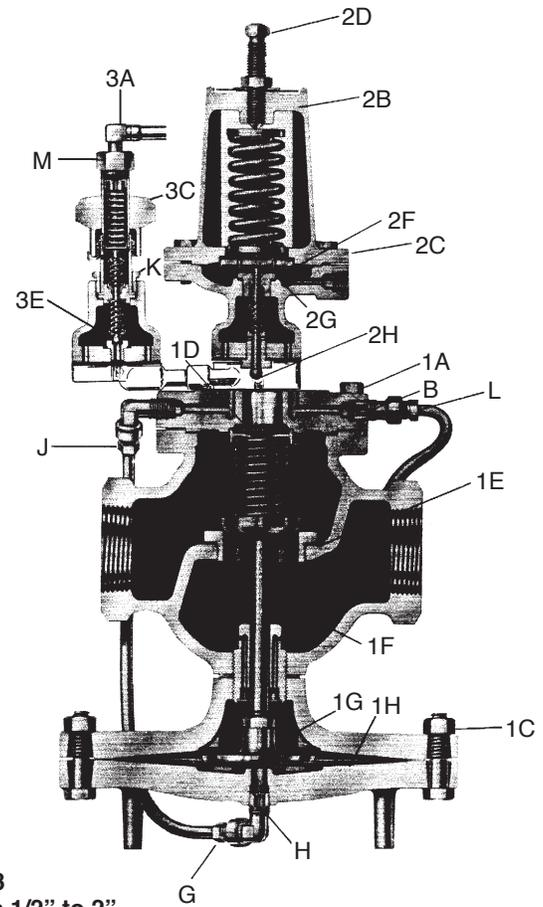

Fig. 3
2. Turn the pressure pilot adjustment 2D (Fig. 3) counter-clockwise until spring is slack.
Temperature Pilot, Inspecting and Replacing Valve Head and Seat (Refer to Fig. 3)
Pressure Pilot, Inspecting and Replacing Valve Head and Seat (Refer to Fig. 3)
2. Pilot valve head and seat are contained in one complete assembly. (See Fig. 3).
Inspecting and Replacing Pilot Head Stem Guide (Refer to Fig. 3)
Inspecting and Replacing Pressure Pilot Valve Diaphragms (Refer to Fig. 3)
Valve Sizes 1/2" thru 4" Inspecting and Replacing Main Valve Head and Seat (Refer to Figs. 3 and 5).
Valve Sizes 1/2" thru 4" Inspecting and Replacing Main Valve Diaphragms (Refer to Figs. 3, 4 and 5).
Refer to Figs. 3, 5, & 7